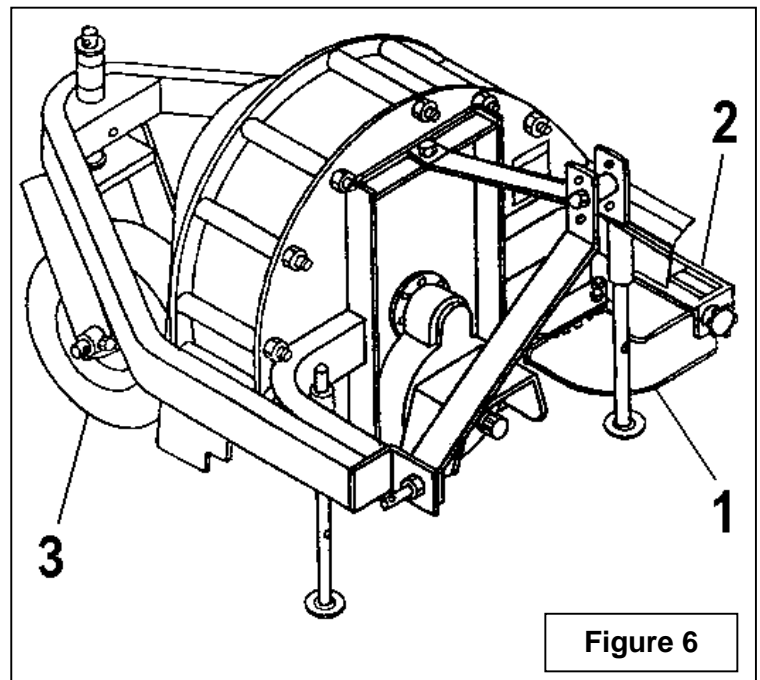

Figure 6
The nozzle (fig.6, item 1) can be rotated 230°. Set direction of the nozzle by turning the handle clockwise to rotate nozzle toward tractor or counterclockwise to rotate nozzle away from tractor.
Placing the toggle forward lowers the deflector (fig.6, item 2). Placing the toggle to the rear raises the deflector. (If movements are different simply reverse actuator lead wires).
To adjust the deflector (fig.6, item 2), loosen knob, select angle and fasten knob securely.
Set gauge wheel (fig.6, item 3) height according to surface conditions (make sure nozzle clears the ground in all conditions). To set height, remove linchpin from wheel bracket, place the sleeve spacers either on upper or lower side of blower frame, and reinstall the linchpin.